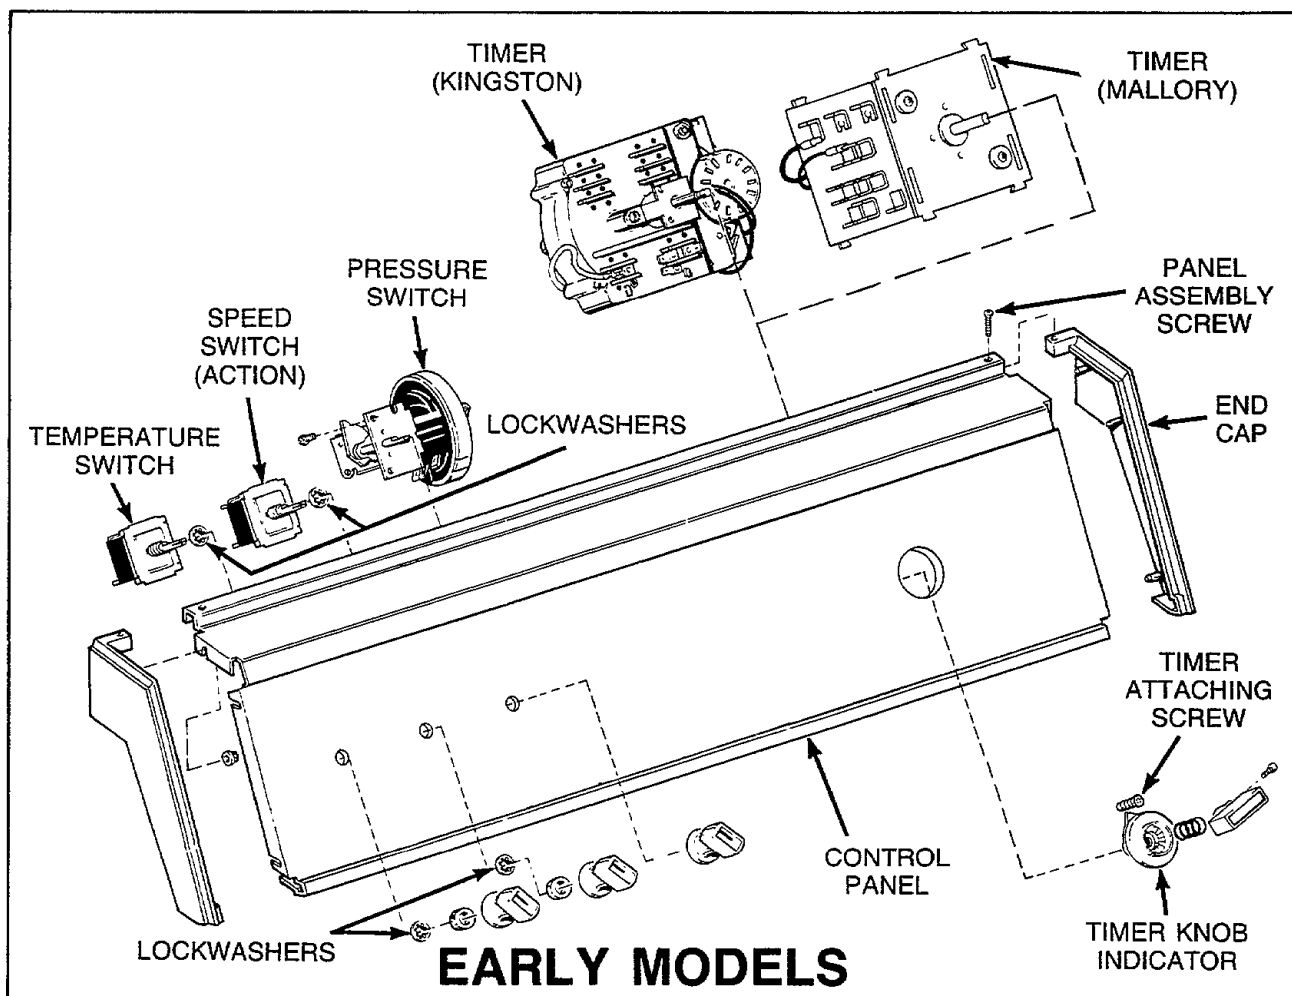

Figure 1
1. CONTROL PANEL (Refer to Figure 1 or 2)
NOTE: When reinstalling timer knob assembly, pin in timer shaft must be positioned in slot in timer knob indicator, *Figure 1*.
EARLY MODELS (Refer to Figure 1)
- b. Remove three Phillip head screws holding timer to control panel bracket, *Figure 1*.
Refer to *Figure 1 or 2* for switch removal.